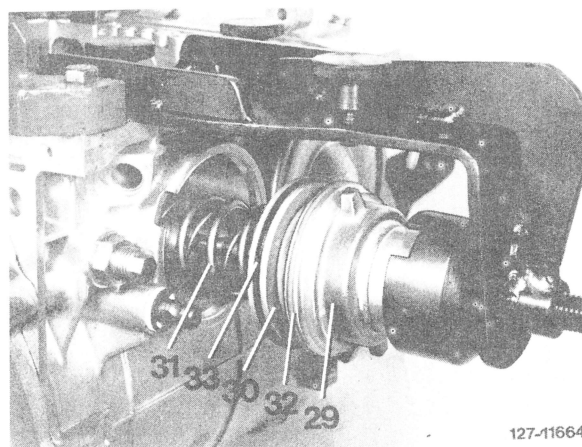

Fig. 69
**90** Replace O-ring (32) of brake band piston cover B 1 (Fig. 69).
**91** Replace lip sealing ring (33) of brake band piston B 1 (30). Assemble auxiliary piston and brake band piston B 1 (transmission 722.003), slip compression spring(s) (31) on brake band piston (Fig. 69).
**92** Mount assembly fixture with brake band piston B 1 and screw down. Introduce brake band piston cover B 1 (29) with assembly fixture (Fig. 69) and secure by means of circlip.